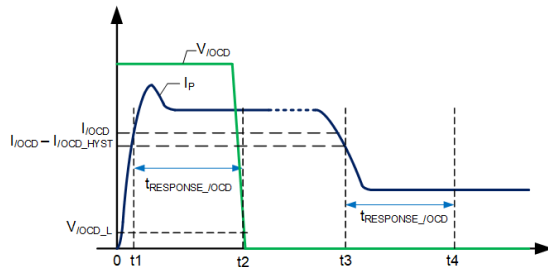

Figure 8: /OCD Timing
Figure 8 shows the OCD timing. If  $I_P$  reaches the  $I_{/OCD}$  and stays at this value for longer than  $t_{RESPONSE\_/OCD}$ , the /OCD pin's voltage ( $V_{/OCD}$ ) pulls down to  $V_{/OCD\_L}$ . When  $I_P$  goes below  $I_{/OCD} - I_{/OCD\_HYST}$  over another  $t_{RESPONSE\_/OCD}$ ,  $V_{/OCD}$  starts to rise.  $t_{/OCD\_RISE}$  is the  $V_{/OCD}$  rising time from logic low to logic high, and it is dependent on the pull-up resistor ( $R_{PULLUP}$ ) value and the capacitance from the /OCD pin to GND. A small resistor-capacitor (RC) results in a faster rise time.